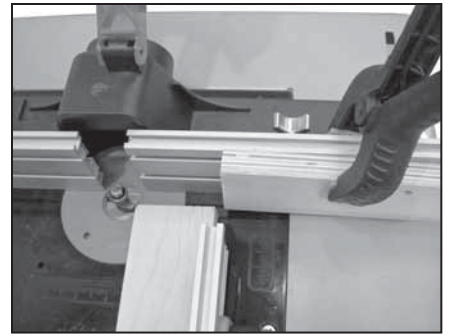

Figure 22
1. Attach a piece of 1x scrap material to the infeed side of the router fence. This piece can be clamped temporarily to the fence face or attached to the aluminum extrusion using 1/4" bolts of the proper length with corresponding nuts counter sunk into the face of the wood scrap. If attaching the wood piece to the extrusion, you may want to make a second one for the outfeed side. These auxiliary faces will come in handy for creating zero clearance bit openings, and may be extended beyond the ends of the fence for extra infeed/outfeed stability. Again, for this operation this extra piece should be on the infeed side only. The material to be shaped should clear the infeed face before coming in contact with the cutter, therefore it may be necessary to adjust the auxiliary face farther away from the bit. See Figure 22.